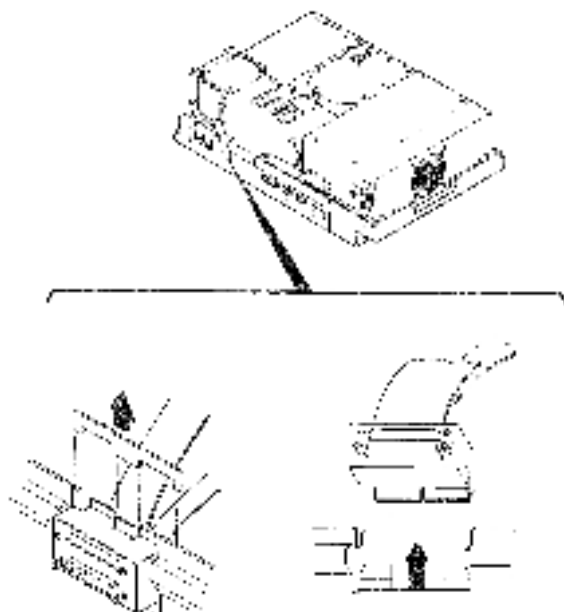

Figure 2-69 Removing Data Cable Connector Assembly
3. On the system unit backpanel, lift the retaining bar and gently rock the data cable connector assembly back and forth until you can pull it out of the expansion slot. (Figure 2-69).